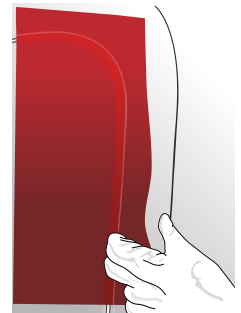

Figure 13
- › Stretch the vinyl over the substrate so that it touches the raised surface. Then apply the peak with your finger. (FIG. 13)